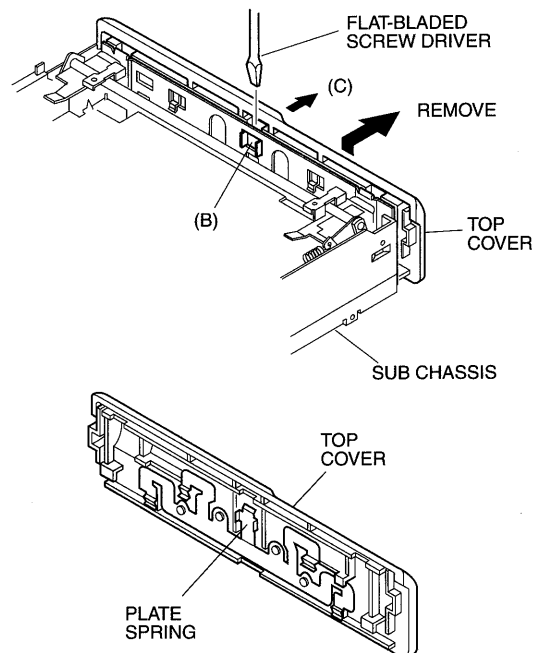

Fig. 2-3-3
Insert a flat-bladed screwdriver between the top cover and sub chassis, and push section (B) of the plate spring in the direction of arrow (C), to remove the top cover in the direction of the arrow. (See Fig. 2-3-3)